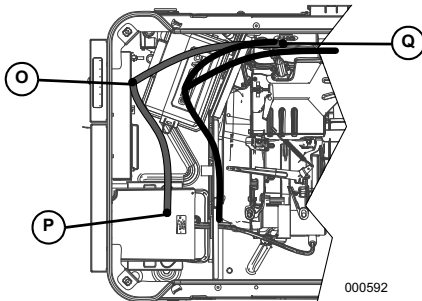

Figure 6.
13. Run and tie wrap harness extension to existing wiring harness, and connect. (See Figure 6).
**NOTE:** Battery heater (P) and block heater (Q) require 240 VAC to operate. Breather heater needs 120 VAC to operate.
14. Run harness extension through control box and plug into 240 VAC input sense terminal block, N1 (S) and N2 (R) on the Terminal Block (O). (See Figures 6 and 7).